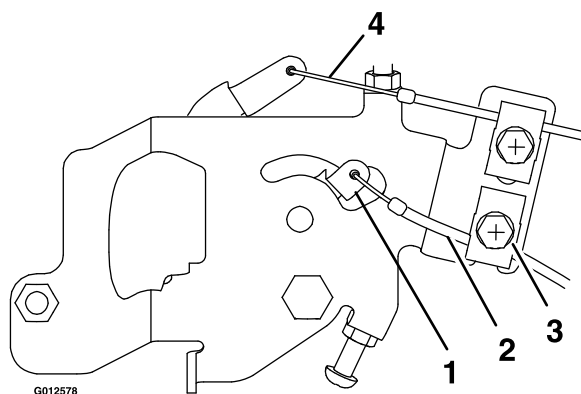

Figure 4
2. Attach the inner wire of the throttle cable to the top hole in the throttle control lever as shown in Figure 4.